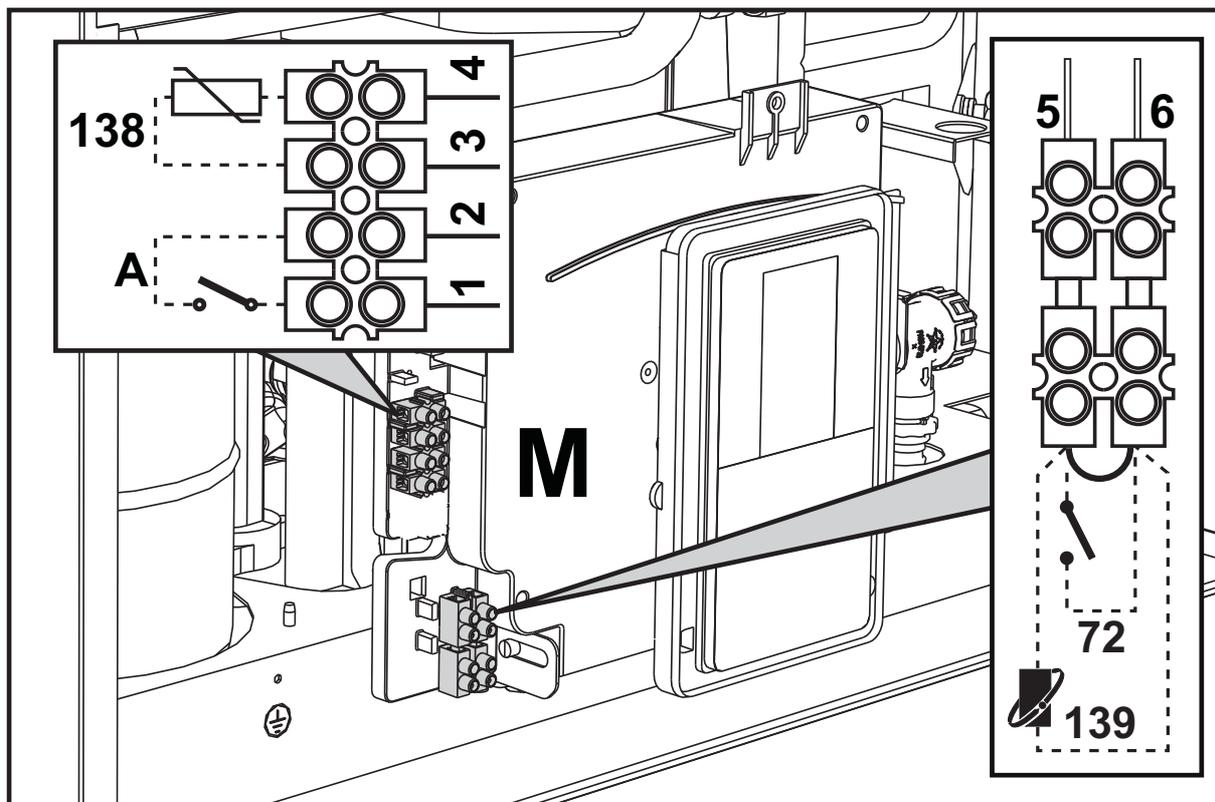

fig. 28
After removing the front panel ("Opening the front panel" on page 354) it is possible to access the terminal blocks (M) and the fuse (F) following the directions given below. **The terminals indicated in fig. 28 must be with voltage-free contacts (not 230V).** The arrangement of the terminals for the various connections is also given in the wiring diagram in fig. 64.
ON OFF switch configuration (A fig. 28)